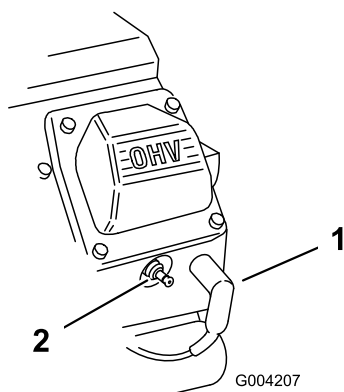

Figure 164
2. Pull the wires off the spark plugs (Figure 164).